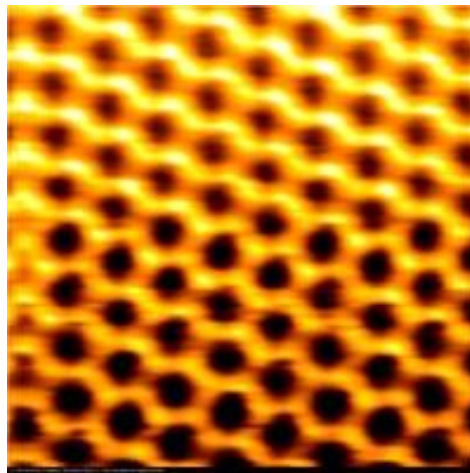

Figure 1: Image showing morphology of hexagonal graphite unit cells
- (2). (a). Atomic Force Microscopy (AFM) is a type of Scanning Probe Microscopy, a technique that forms image of surfaces using physical probe that scans the specimen. Describe how the image of hexagonal graphite unit cells in Figure 1 can be formed using this technique with aid of a diagram.